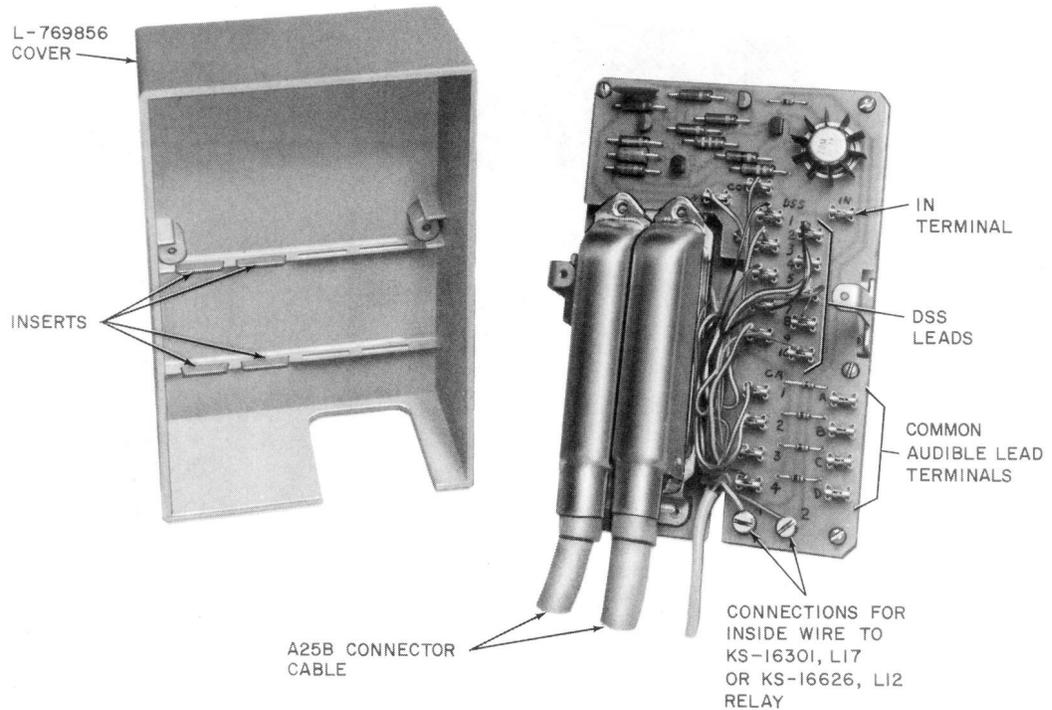

Fig. 16—25A Apparatus Unit
- (1) Remove the cover and mount the base pan assembly (Fig. 16 and 17) at the desired location (use appropriate fastener per BSP 080-720-105).
- (2) Mount the KS-16626 L12 relay set per BSP 463-120-100 or the KS-16301 L17 relay set per BSP 463-110-100.
- (b) Connect the 25A apparatus unit (Fig. 16) as follows:
- (1) Connect the auxiliary signal and power supply to KS-16626 L12 relay set and/or KS-16301 L17 relay set per BSP 463-120-100 or BSP 463-110-100, respectively.
- (4) Insert system cable or cables (Fig. 16).
- (5) Position inserts (Fig. 16) inside cover to hold cables securely when cover is replaced.
- (6) Replace cover.